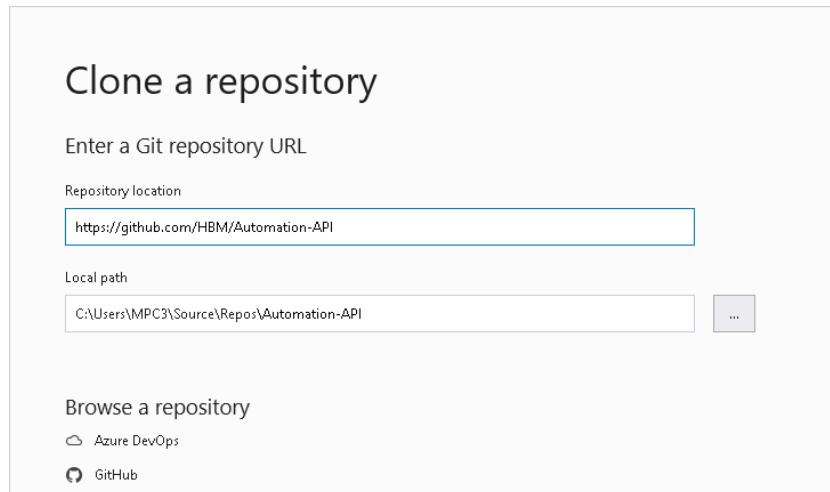

Fig. 4.2 Specifying the repository for the sample applications
- ▶ Set <https://github.com/HBM/Automation-API> as the repository location – see Fig. 4.2.
- ▶ Also specify the local path where you want to store the project ("Source\Repos\Automation-API" folder in Fig. 4.2).